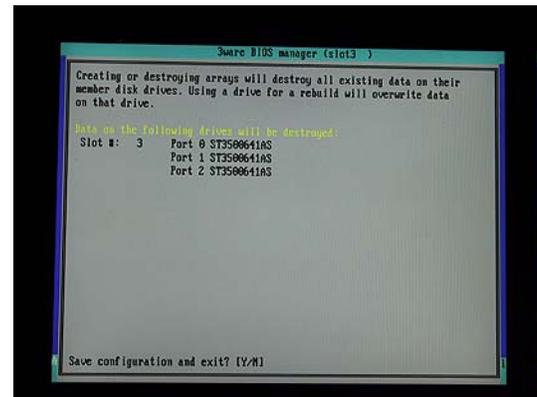

Figure 2-16
- 16) You will be presented with a warning screen as shown in Figure 2-16. Press the **Y** (yes) key in order to establish your array and exit the 3ware BIOS setup utility. The system will automatically reboot itself in order to make your new RAID array available to the operating system. During the boot process you will see the BIOS report the existence of your new RAID array.